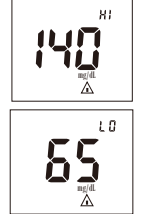

Fig.5
11. To change the "HI alarm setting" press the **S** button. To enter the 'HI alarm setting" and move on to "LO alarm setting" press **M** button. (Fig.5)